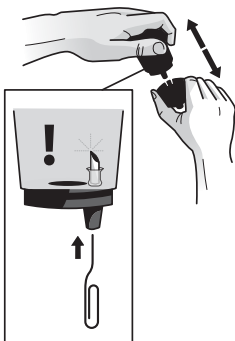

FIGURE 1
2. **Cleaning the Funnel** – The Funnel can be removed from the K-Cup Holder by pulling on it until it snaps off (fig. 1). The Funnel is dishwasher safe. To replace it, just snap it back onto the K-Cup Holder Assembly.
3. **Cleaning the Exit Needle** – The Exit Needle is located on the inside bottom of the K-Cup Holder Assembly. Should a clog arise due to coffee grinds, it can be cleaned using a paper clip or similar tool. Remove K-Cup Holder assembly and detach Funnel. Insert the paper clip (as shown in fig. 1) into the Needle to loosen the clog and push it out. The K-Cup Holder is dishwasher safe.